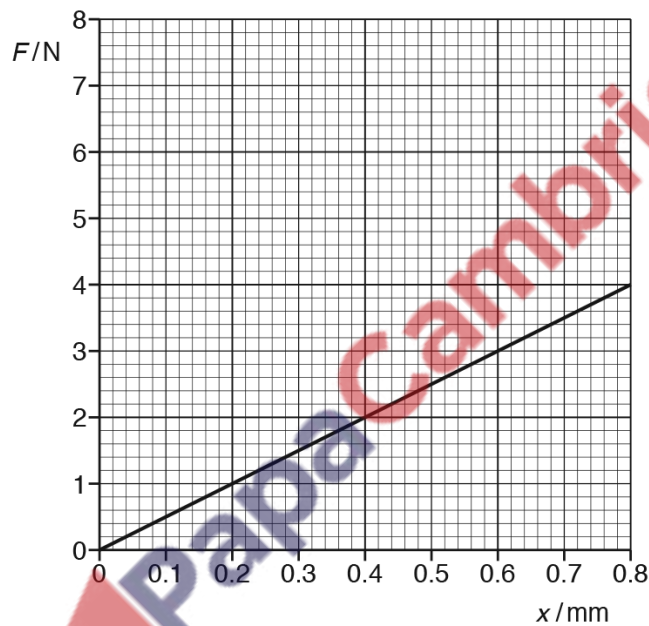

Fig. 3.1
(b) A wire is fixed at one end so that it hangs vertically. The wire is given an extension x by suspending a load F from its free end. The variation of F with x is shown in Fig. 3.1.
- (iii) Use Fig. 3.1 to calculate the increase in the energy stored in the wire when the load is increased from 2.0 N to 4.0 N.
On Fig. 3.1, sketch the variation with extension x of the load F for the new wire from $x = 0$ to $x = 0.80$ mm. [2]